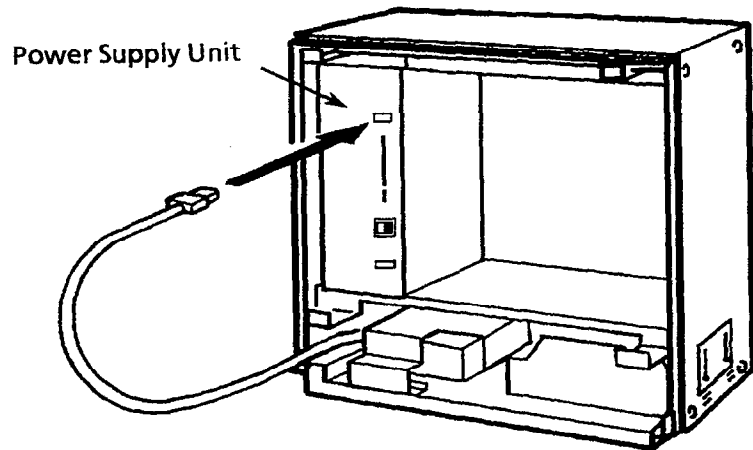

Figure 3-34 Connecting the Batteries to the Power Supply Unit
3. Connect the cord to the DC IN connector of the power supply unit. Refer to Figure 3-34 - Connecting the Batteries to the Power Supply Unit.